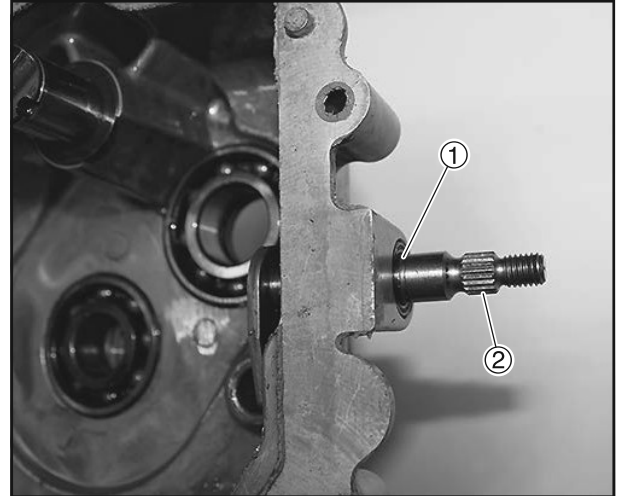

Figure 6-85
23. Remove the snap ring (Figure 6-85, (1)) and slide the shift lever (Figure 6-85, (2)) into the case to remove.